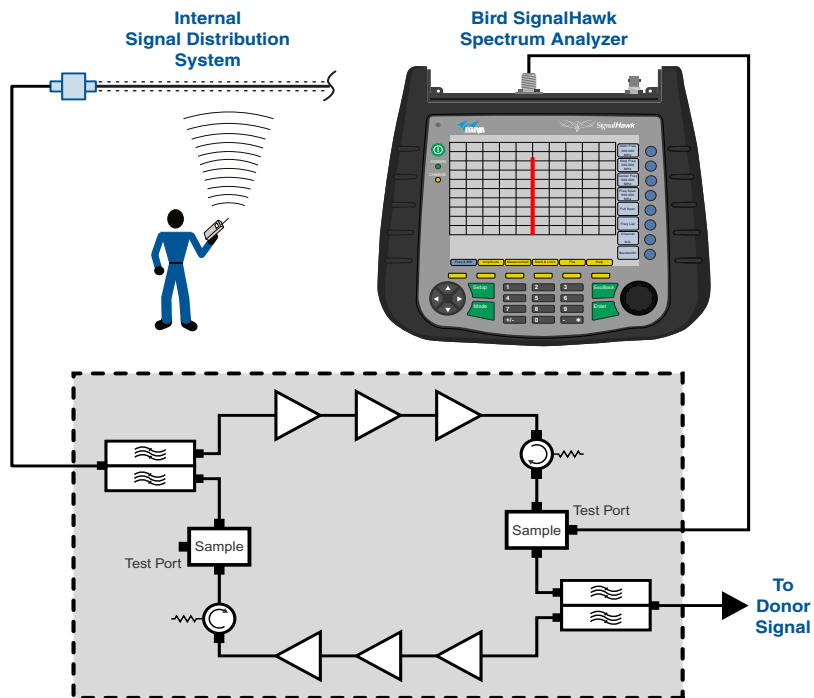

Figure 10: Methodology for doing a performance survey of the signal distribution system.
- 3) With a spectrum analyzer connected to the signal sampler port (see **Figure 10**), have personnel with handheld radios move to several predetermined points and key their radios. Record the level of these signals as observed on the analyzer and also record the location of the person transmitting. In this way, a map of the systems performance can be generated.